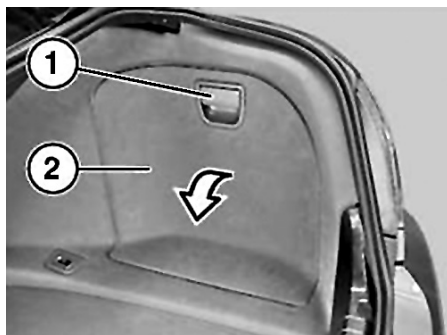

Fig. 1 Access door location
3. Lift lever (1) and open access door (2), **Fig. 1**.